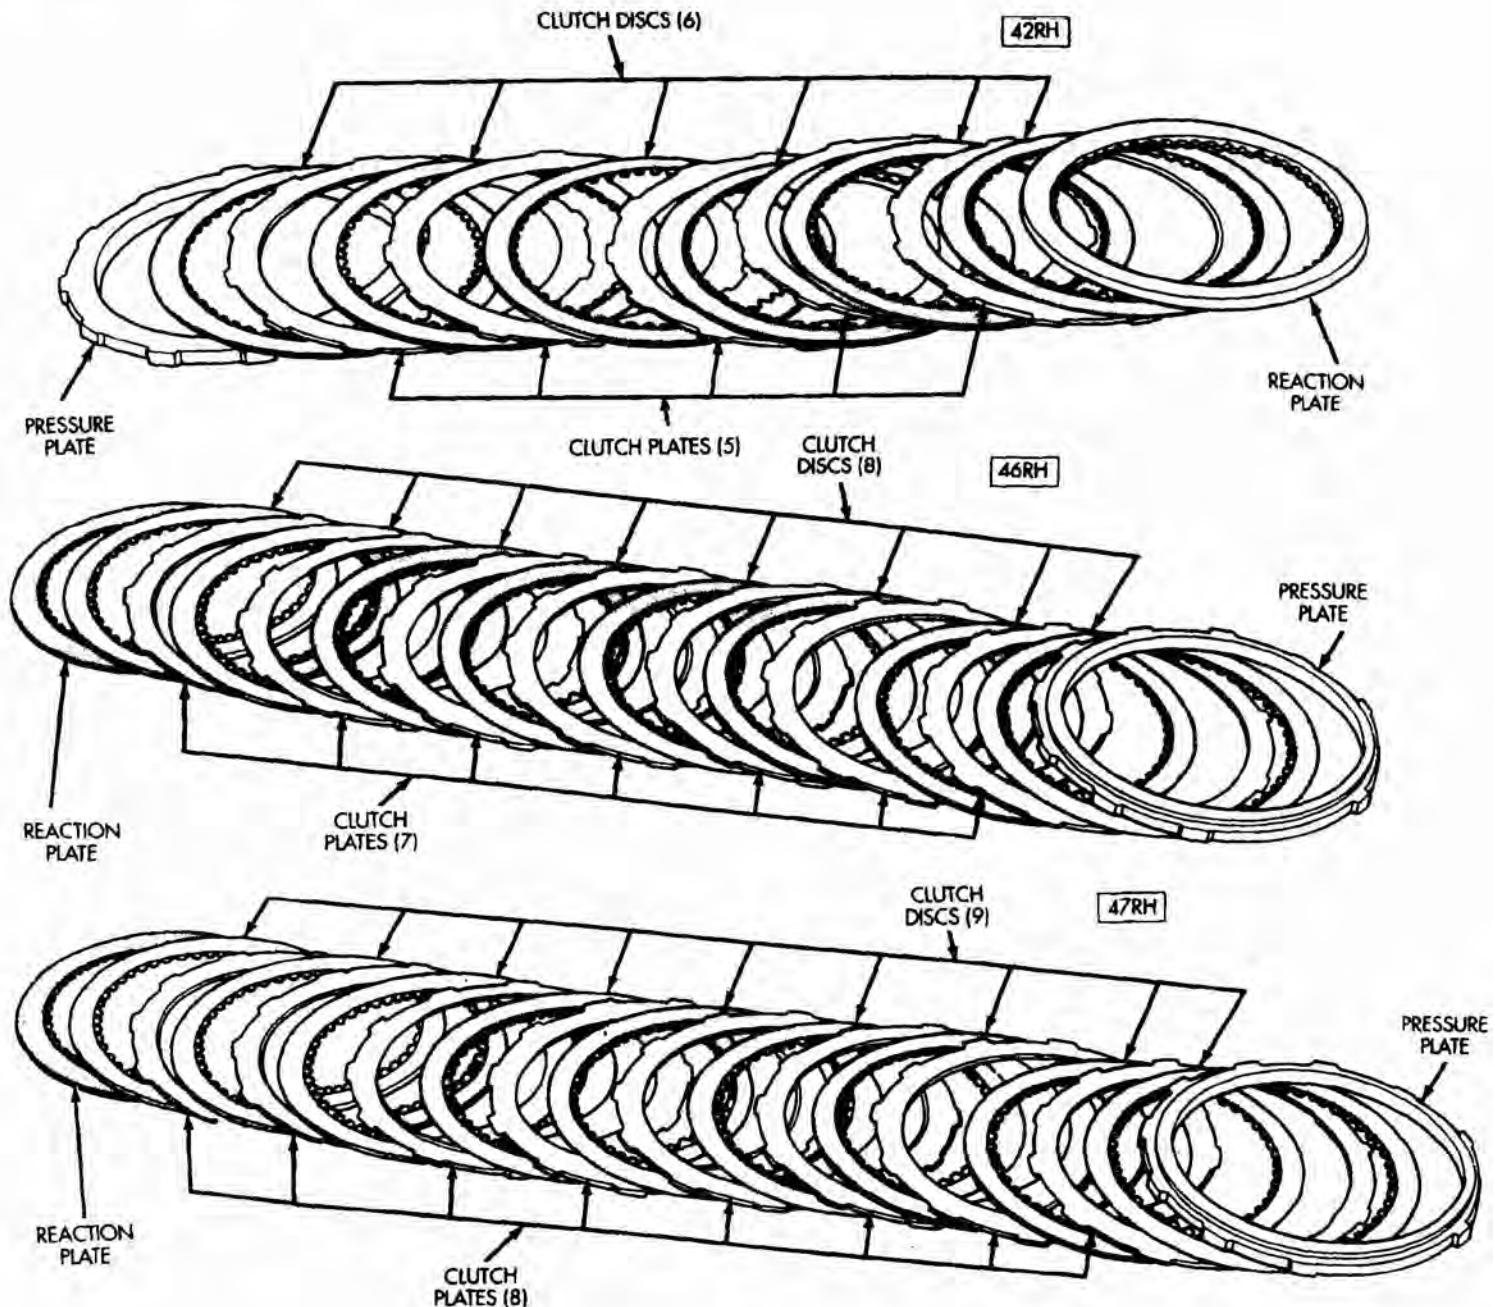

Fig. 56 Direct Clutch Pack Components
(19) Assemble direct clutch pack for installation on hub (Fig. 56).
plates are installed. 42RH requires 6 discs and 5 steel plates. 46RH requires 8 discs and 7 steel plates. 47RH requires 9 discs and 8 steel plates (Fig. 56).